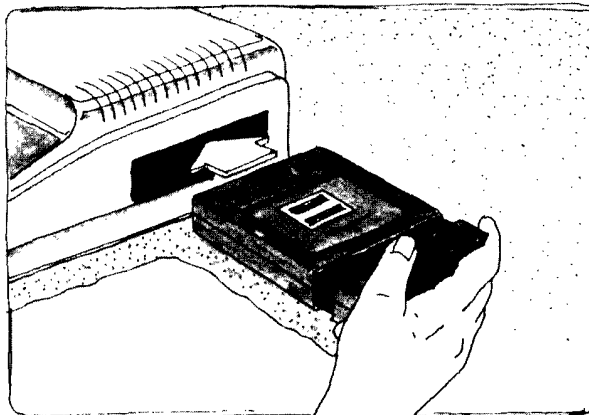

Figure 1. Inserting the RS-232 Program Pak
3. Insert the Deluxe RS-232 Program Pak into the slot on the right side of the Computer. See Figure 1.